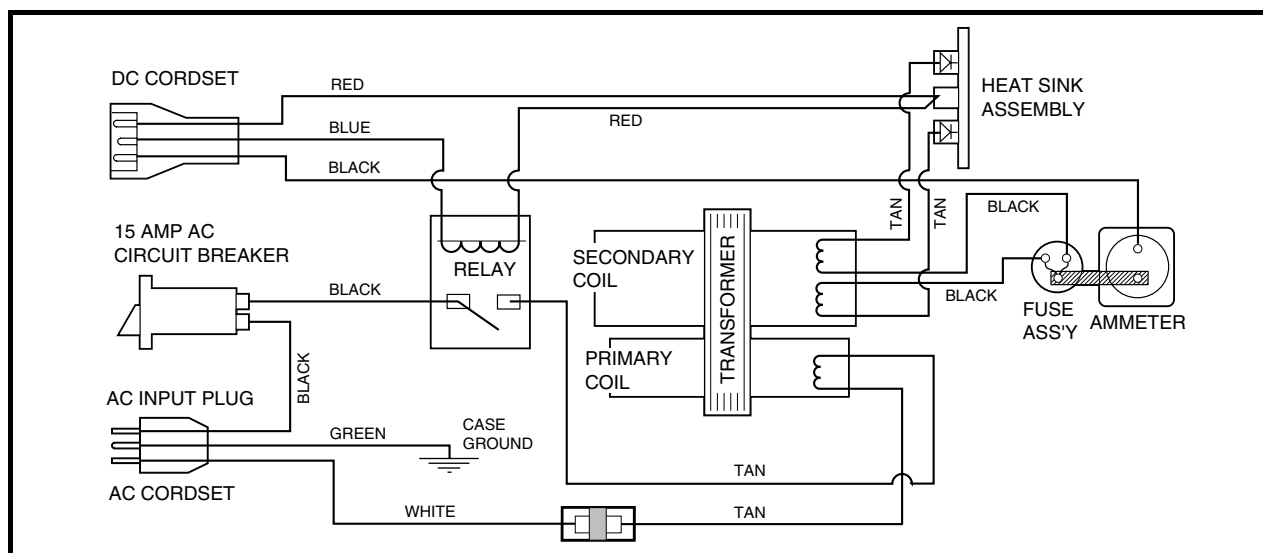

Figure 14-4 PowerDrive Battery Charger Wiring Diagram
3. If the charger does not operate as in steps 1 or 2 above, refer to the wiring diagram (**Figure 14-4, Page 14-7**) and make sure the charger is wired correctly.
- KNOWLEDGE OF BATTERY CHARGER WIRING AND COMPONENT TERMINOLOGY IS REQUIRED BEFORE ATTEMPTING ANY REPAIRS (**FIGURES 14-4 AND 14-5, PAGES 14-7 AND 14-8**).